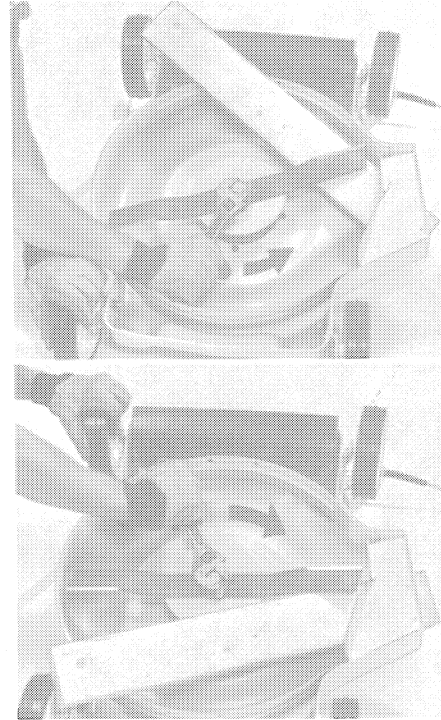

FIGURE 15
3. Wear gloves. Position wood and remove nut as shown in Figure 15. (If square blade spacer starts to turn with nut, use a second wrench to hold spacer and keep shaft from turning).